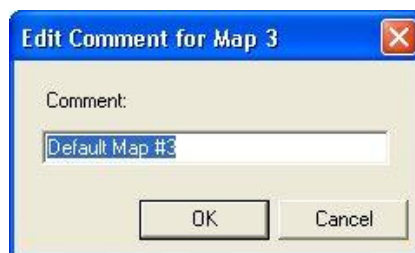

Figure 10 - Edit Map Comment Dialog
7. When editing a map clicking the right mouse button in the graph area brings up a context menu that allows the comment associated with the map to be edited. When this menu option is selected the Edit Map Comment dialog (Figure 10) is displayed. Make any changes that are required and then click **OK** or **Cancel** to leave the comment unchanged. Note that these comments are only stored in the disk file and are not read from or written to the EPAS Ultra ECU.